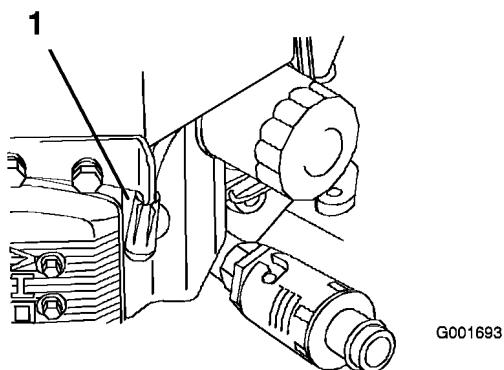

Figure 33
3. Disconnect the wires from the spark plugs (Figure 33).